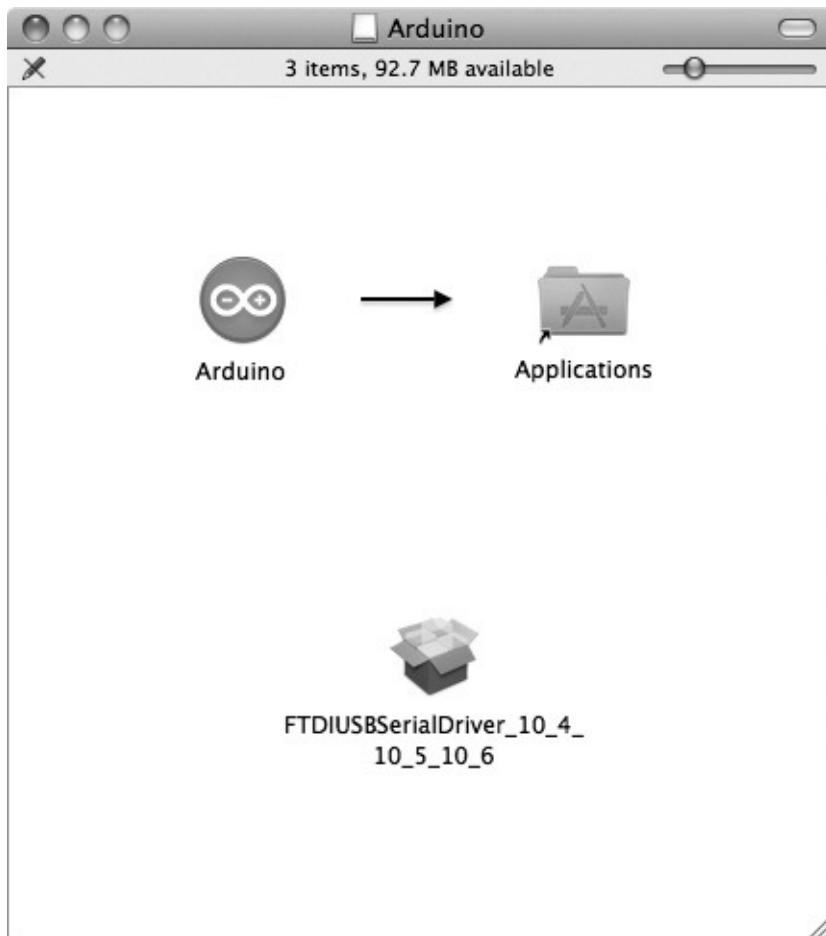

Figure 1-9. Your new Arduino IDE folder
3. Once it's finished downloading, double-click the file to start the installation process. You will then be presented with the window shown in Figure 1-9.
The third file icon shown in Figure 1-9 needs to be installed only if you have an Arduino board older than the current Uno.